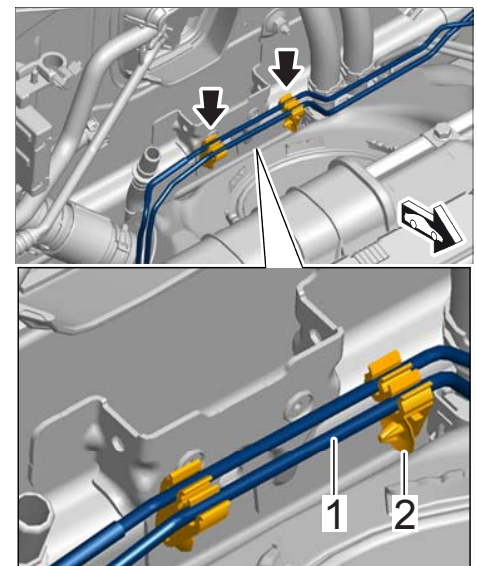

Figure 5
- 8.4 Unclip brake lines ⇒ *Figure 5 -1-* with the retaining clips ⇒ *Figure 5 -2-* at the bodyshell mounting ⇒ *Figure 5 -arrows-* and pull them forward until the inner area of the bodyshell mounting is easily accessible.